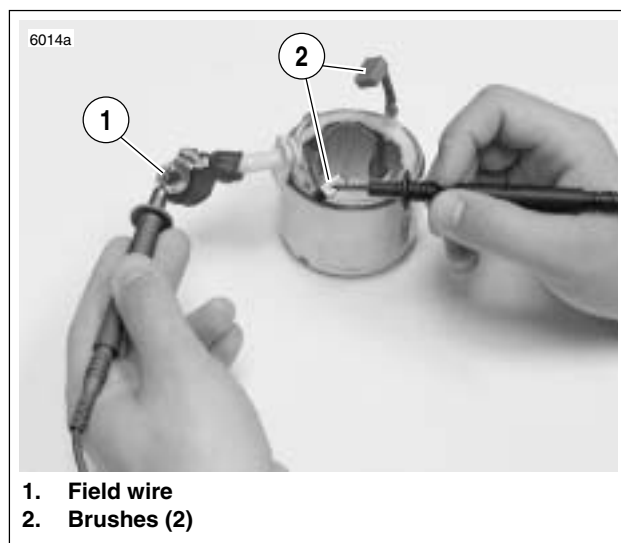

Figure 5-24. Open Field Test
13. See Figure 5-24. Check for OPEN FIELD COILS with an ohmmeter or continuity tester.
- a. Touch one probe to the field wire (1).
- b. Touch the other probe to each of the brushes attached to the field coil(s) (2).